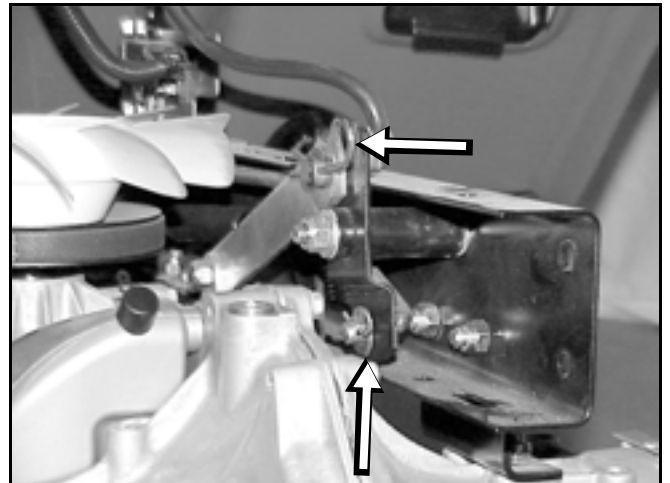

Figure 126
7. Disconnect the hairpins on both the speed control link and the speed control rod (Figure 126).